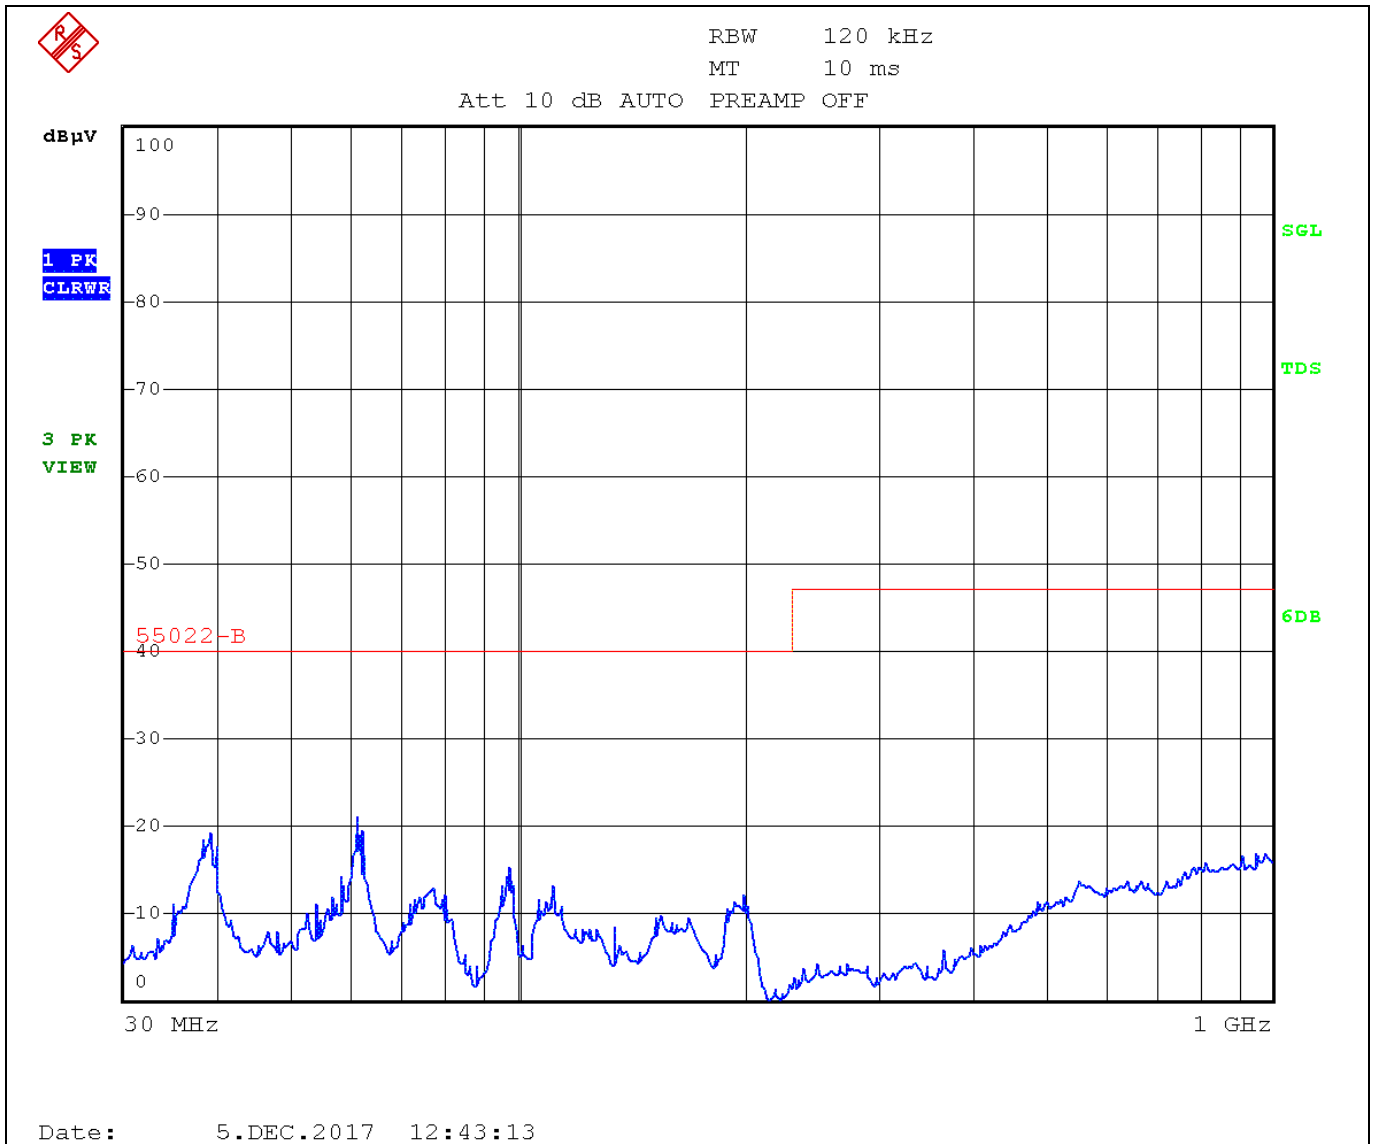

Figure 12 EMI radiated results for EVK with LC filter. Board positioned towards antenna. Antenna position is vertical.
- Board was positioned towards the antenna and the antenna was Horizontal (Figure 12)